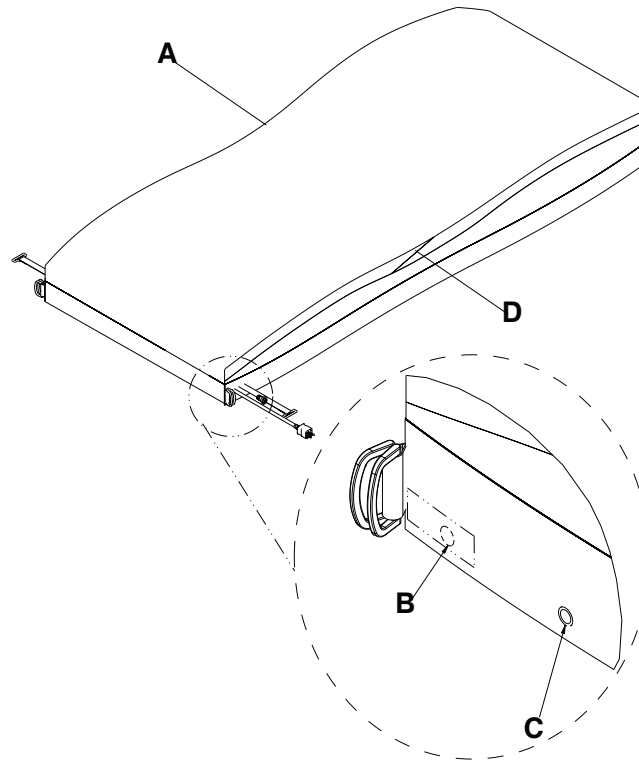

Figure 9 – Top cover
5. Unsnap the two secure snaps (C) at the foot end corners (Figure 9).
6. Unsnap the two foot end corner retainers (B) (Figure 9).
8. Using the zipper pull tool or equivalent, unzip the support surface top cover from the bottom cover (A) (Figure 9) and stop unzipping at the middle of the opposite side (D).
13. Using a T15 Torx driver, remove the nine ground screws (B) and nine star washers (D) (Figure 9). Save the ground screws and star washers.